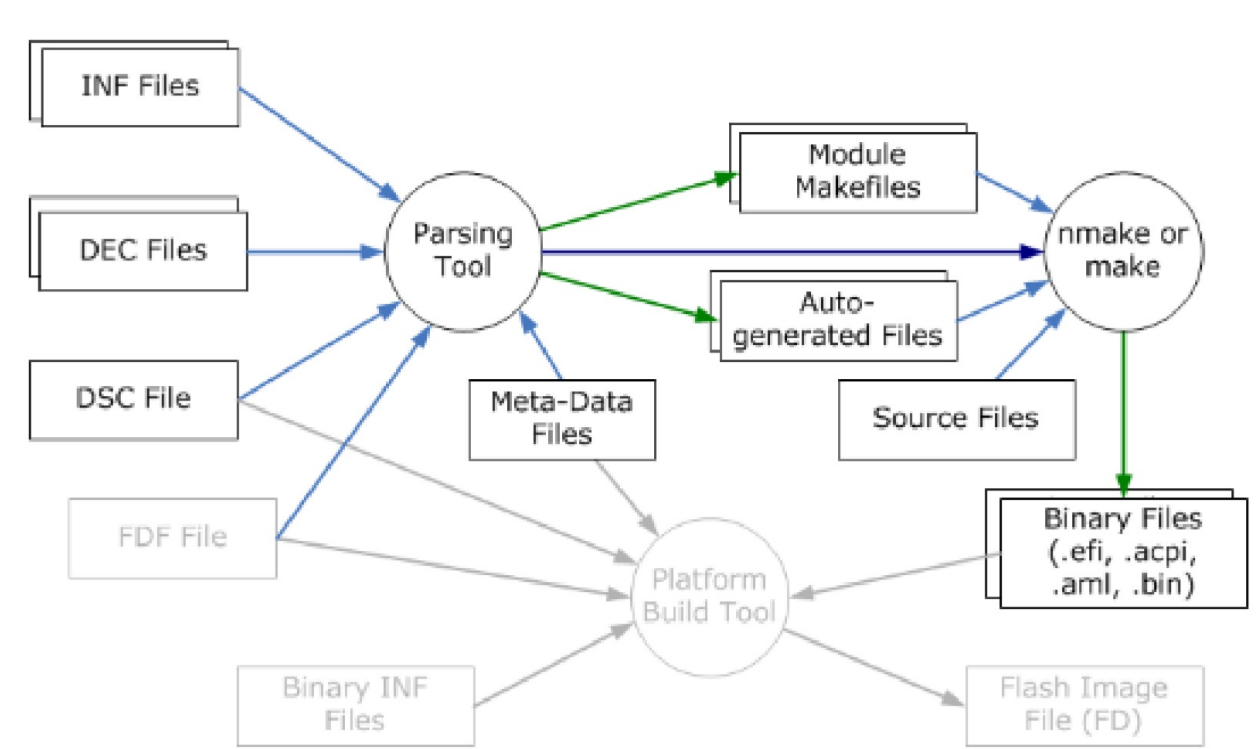

Figure 18 EDK II Platform Build Process Flow
Figure 18 shows the relationship of these three stages.
**Note:** In Figure 18, Meta-Data Files indicates build tool meta-data files: `builddrule.txt`, `tools_def.txt`, `target.txt` and the like.